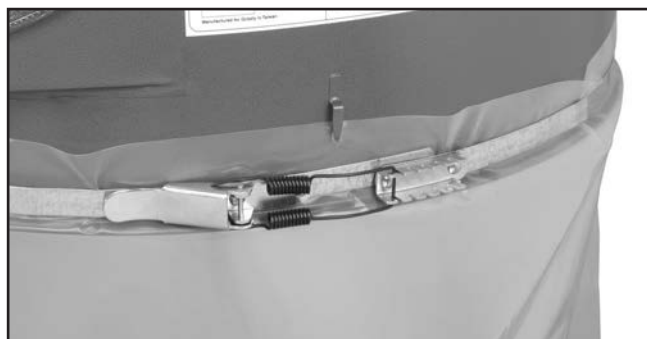

Figure 35. Installing the lower bag.
- Slip the plastic collection bag over the bottom edge of the collector, snag it on the metal hooks, and then tighten the clamp at the tightest notch possible (**Figure 35**).